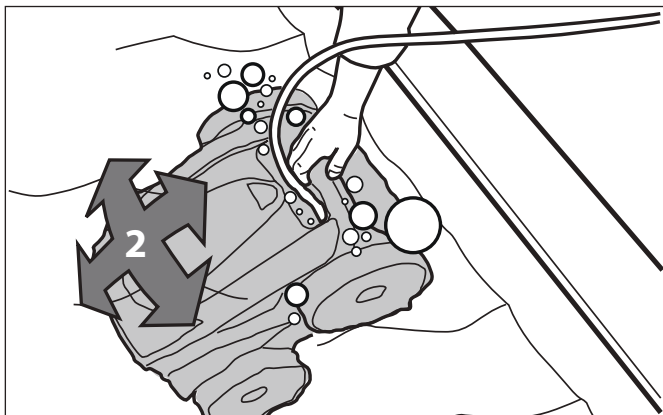

Figure 17. Cleaner Sinking to the Bottom of the Pool
2. Ensure the unit sinks to the bottom of the pool. Refer to Figure 17.